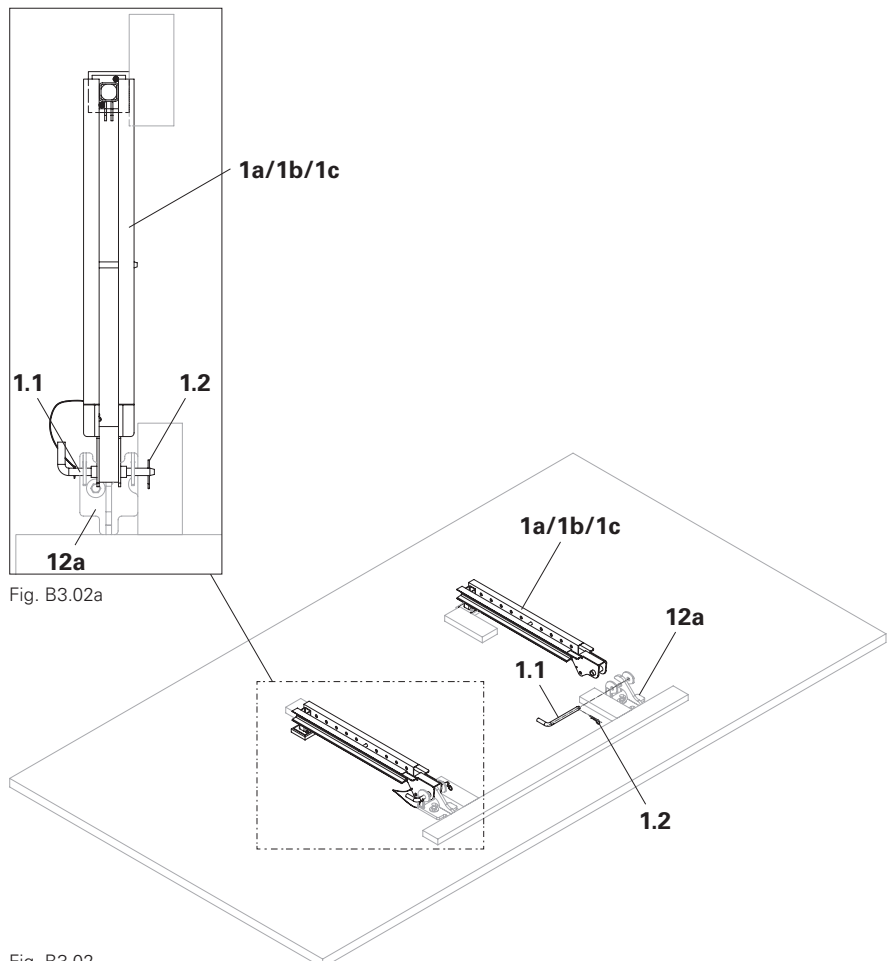

Fig. B3.02
1. Fit Bracket Post VGK (**1a/1b/1c**) onto Suspension Head VGK Flex (**12a**) with locking pin  $\varnothing 20 \times 260$  mm (**1.1**), align and secure with Cotter Pin 4/1 ga (**1.2**). (Fig. B3.02 + Fig. B3.02a)
(Fig. B3.02 + Fig. B3.02a)